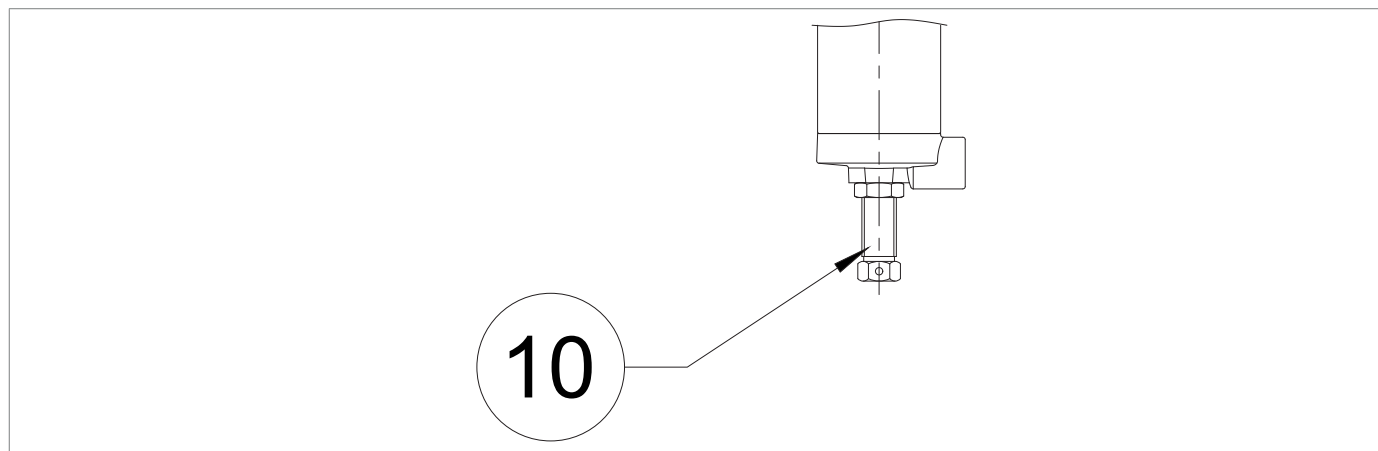

Fig. 8.12. 300 series pilot calibration
2	Completely unscrew the fixing nut and adjusting screw (Fig. 8.12, ref. 10) of the pilot (3) to relieve the spring.
11	Tighten the adjusting screw and fixing nut (Fig. 8.12, ref. 10) of the pilot (3).